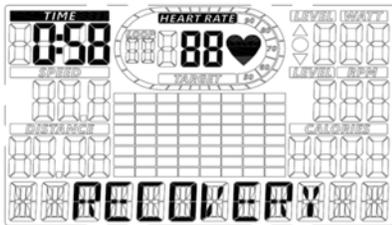
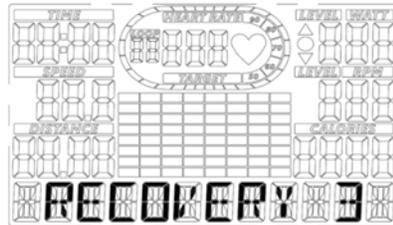

Fig. 42
Fig. 43
- The user must input H.R. signal, as shown in fig. 42, to run "RECOVERY" function (1 minute). LCD will show the test result (Fig. 43) after 1 minute of test.